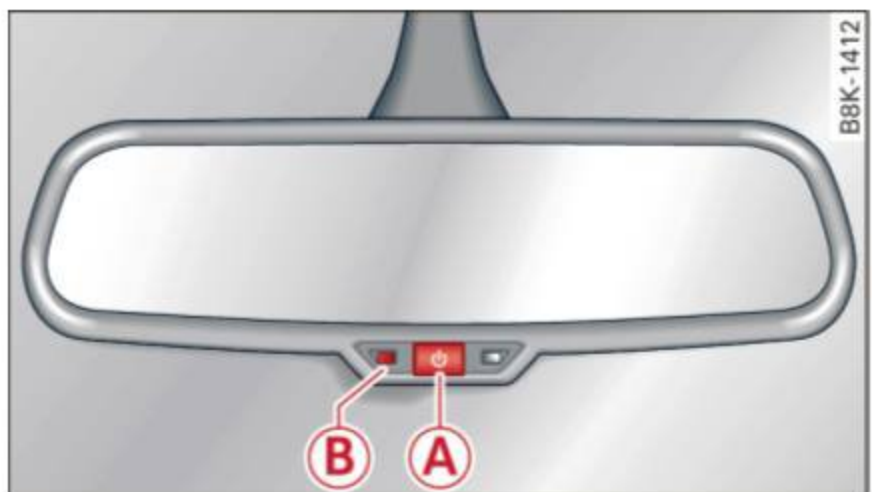

Fig. 43 Automatic dimming rearview mirror*
- ▶ Press the button **A** ⇒ *fig. 43*. The indicator light **B** turns on. The rearview and exterior* mirrors dim automatically when light shines on them, for example from headlights on a vehicle to the rear.